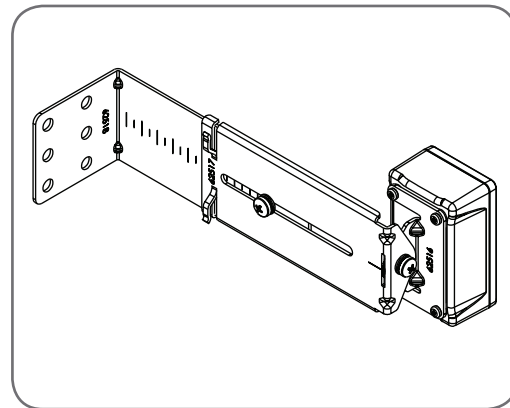

Fig 8.2
- Attach the bracket (2) to the Safety Beam transmitter with four tap-tite screws (m3x5) (5) and attach the other side to the adjustment bracket (3) with the pan head screw (6). (Fig. 8.2)